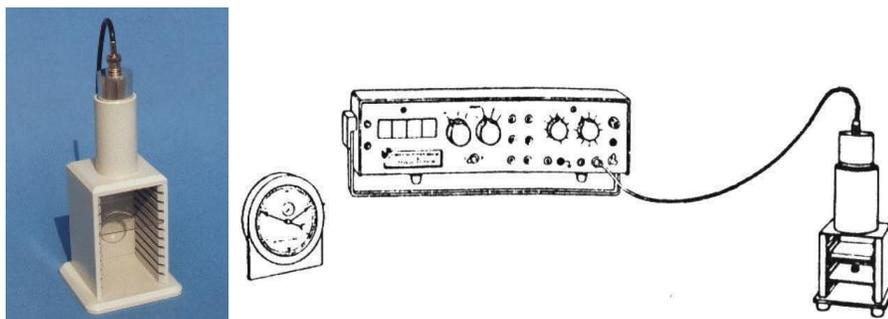

Fig. 3 Setup for the measurements.
- Place a thin Al foil under the Geiger Muller (GM) tube (Fig. 3). Most of the  $\alpha$ -radiation is absorbed.  $\gamma$ -radiation is hardly detected by the GM tube. Therefore, the counts detected by the detector is mainly due to  $\beta$ -radiation.